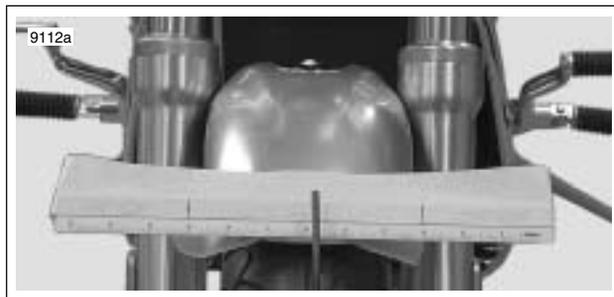

Figure 1-44. Fall-away Measurement
3. See Figure 1-44. Place masking tape on front fender to protect surface. Tape ruler to protected area on front fender.